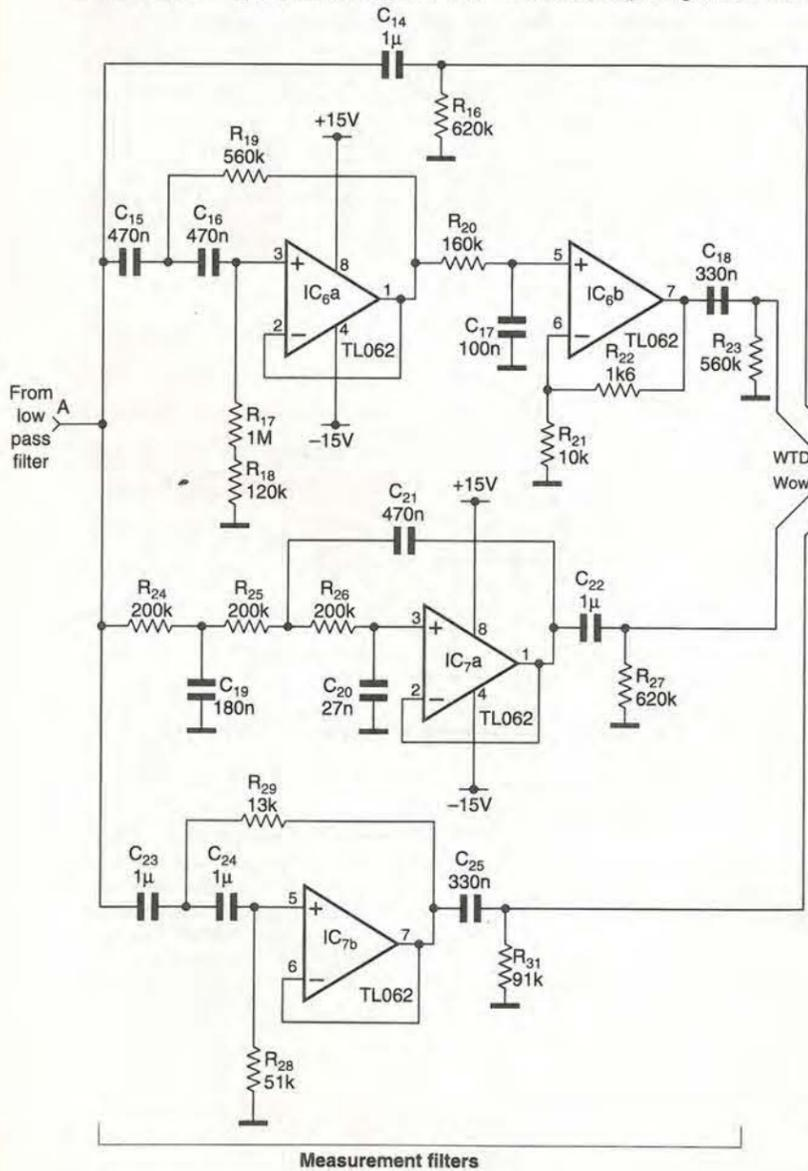
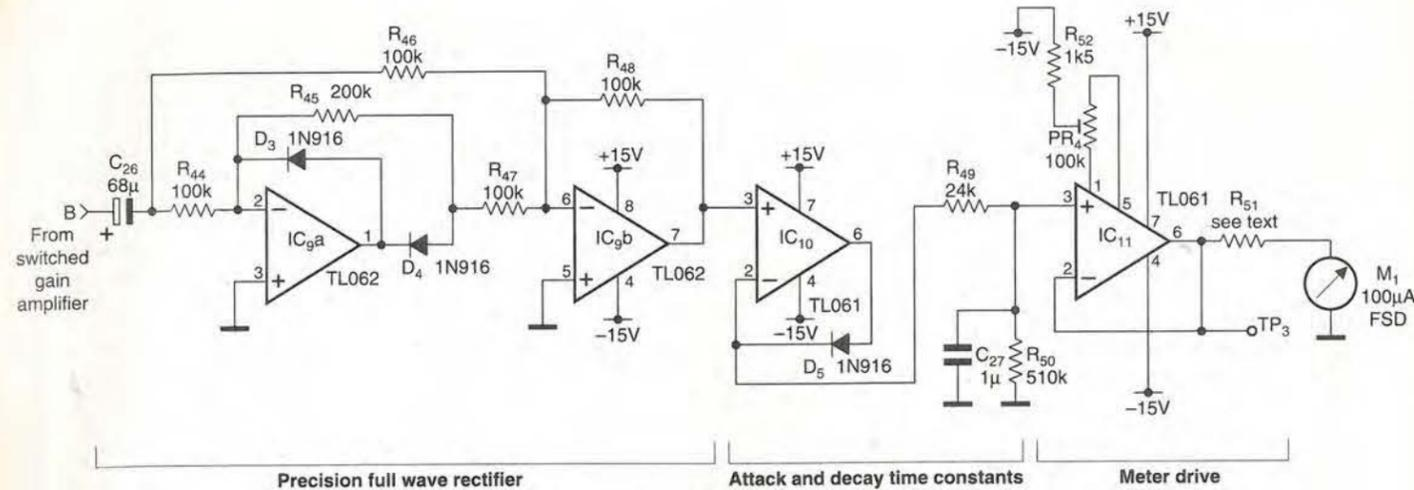

Fig. 4. Flat, weighting, wow and flutter filters, followed by the switched-gain amplifier.
Fig. 5. Quasi-peak indicating full-wave rectifier with meter-drive and the circuitry determining attack/decay time constants.
This step is passed in distorted form - due to the differentiation/integration action - either by the weighting network or by one of the other filters. Fig. 4, to the switched gain amplifier. This presents the amplified transient to the rectifier which charges C27 in Fig. 5 to a voltage far greater than that required for full scale deflection of the meter. This voltage takes a long time to decay, which leads to a good deal of thumb twiddling while the meter
**Table 1. Required performance of the weighting network and the calculated response of the circuit used in Fig. 4.**
Diodes  $D_{1,2}$  limit the output to approximately  $\pm 600mV$ , preventing  $C_{27}$  in Fig. 5